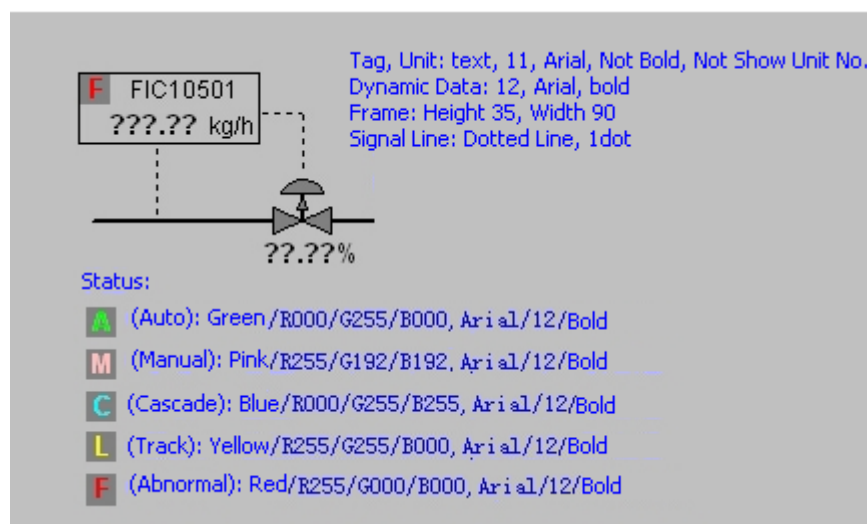

Figure 3-45 Engineering graph grouping 3 Datalinks
- Write Directly: select this option, and click the Datalink after running supervision operation, then an edit box pops up. If it is an important tag, select it, and edit the data tag after running supervision operation, an important tag reconfirm dialog box pops up, as show in Figure 3-45.